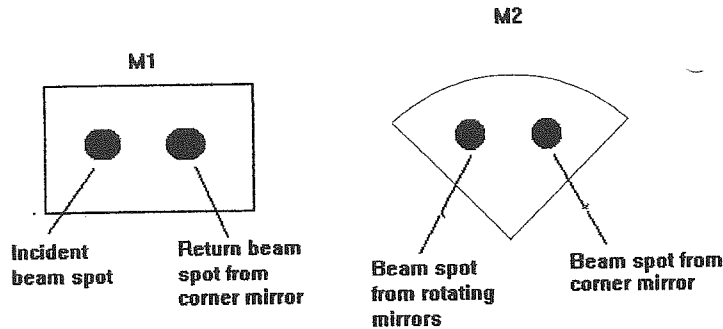

Figure 4 Beam Spots on M1 and M2
(i) Direct the vertically polarized input beam through the center of the input aperture and orient the FR-103 (by lateral movement and/or using the level adjustment knobs) such that the incoming beam is incident on M1 slightly left of center (looking from the front side). The return beam from the corner mirror will form a spot on M1 symmetrically displaced to the right by 6-7 mm. Typical positions of the beam spots are illustrated in Figure 4. Lateral movement of the FR-103 will adjust the separation between the incident and return beams to an optimal value of 4-5mm.
- (i) Direct the input beam, using the level adjustment knobs and/or lateral movement of the FR-103, such that it is incident on M1 slightly to the left of center as depicted in Figure 4.
- (ii) Using a small screwdriver, carefully adjust the vertical and horizontal control screws on M1 such that the return beam from the corner mirror forms a spot at a symmetrically opposite position, as depicted in Figure 4.
Alignment of the PBS is achieved as follows: With the input beam properly directed and M1 correctly aligned, the beam returned by the corner mirror should form a spot on M2 as described in Figure 4. Adjustment of this beam position is controlled by the horizontal and vertical tilts of the PBS. Vertical control is reached from above using a screwdriver. Horizontal control is achieved by loosening two 4-40 screws holding the PBS mount and readjusting it. The return beam retroreflected from the // mirrors can be blocked out during this procedure. When the rotor is set in a scan position and M3 is properly adjusted for retroreflection (by means of the external right side panel knobs), the delayed beam forms a symmetrical spot on M2. (Figure 4) The focus mirror vertical and horizontal controls (on the left side panel) may need to be readjusted to set the two beams symmetrical about the PMT aperture.